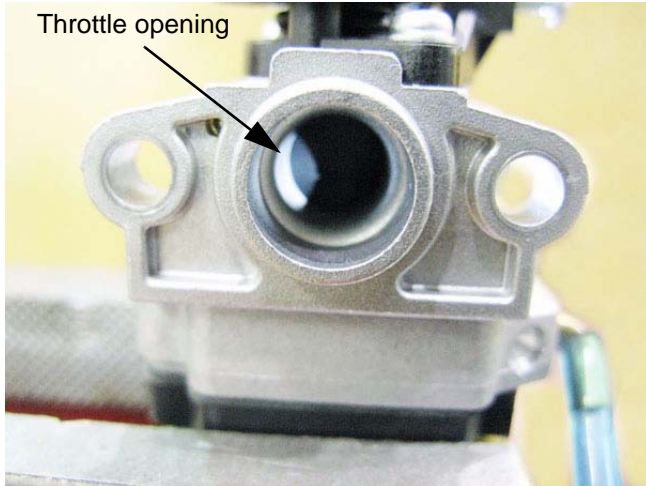

Figure 5.10
2. In the second frame, the throttle has been rotated slightly (tip-in), admitting some air through the rotary valve. See Figure 5.10.